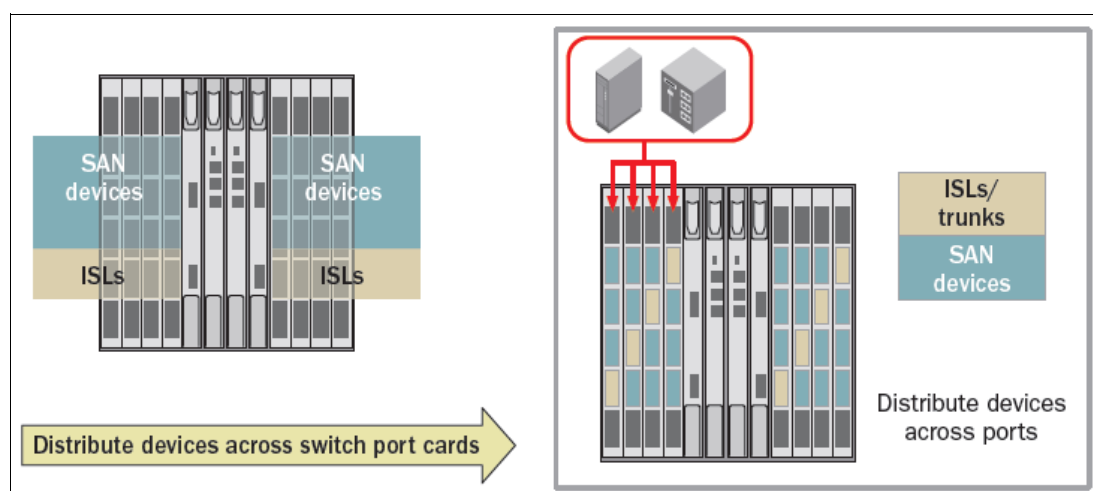

Figure 6-13 Examples of distributed connections for redundancy
In addition to redundant fabrics, redundant links should be placed on different blades, different ASICs, or at least different port groups whenever possible, as shown in Figure 6-13. For more information, see the *Fabric OS Administrator's Guide*, which you can find at the following website:
**Note:** In Figure 6-13 on page 214, ISLs and SAN devices are placed on separate ASICs or port groups. Also, the EHT feature is ASIC-dependent, and the setting applies to all the ports on the ASIC. In environments with high-latency devices, place devices and ISLs on separate ASICs when possible.